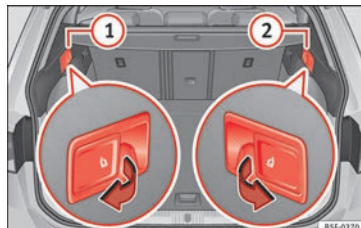

Fig. 156 In the luggage compartment: levers for remote release of the left part **①** and right part **②** of the rear seat backrest.
- Pull the remote release lever of the left part » Fig. 156 ① or right part ② of the backrest in the direction of the arrow. The released part of the rear seat backrest is folded automatically down and forwards.